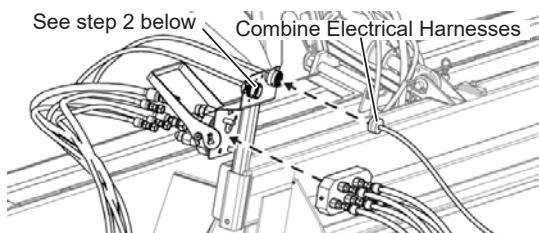

Fig. 48 - Connect Multicoupler & Electrical Harness
2. Connect the hydraulic tilt switch box harness to the connector on the multicoupler (see Fig. 48 above). Route the switch box cable into the combine cab, taking care to keep the cable away from hot or moving parts. Secure the switch box in the cab with the provided suction cup.